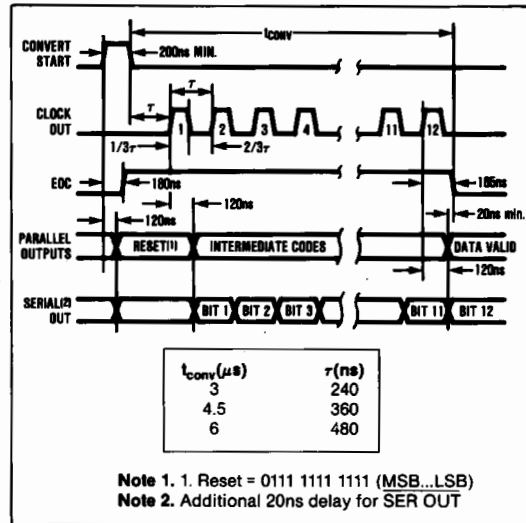

Figure 7. Timing Diagram.
A positive going pulse on Convert Start resets the D/A Converter to $\frac{1}{2}$ FS and sets the End-Of-Convert (EOC) high indicating that a conversion is in progress (Figure 7). The internal clock is enabled and the conversion begins on the trailing edge of the Start Convert (S) pulse. After the last bit has been tested, EOC goes LOW indicating that the output data is valid.